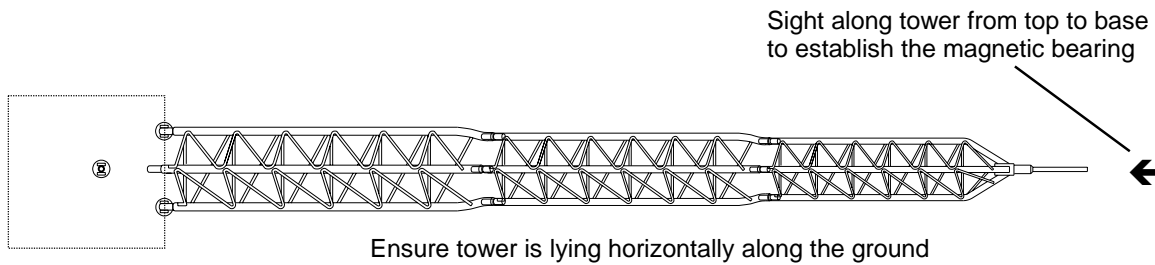

Figure 2-4 Sighting Along the Tower to Check the Magnetic Bearing
3. Sight along the tower, from the mast end towards the base as shown in Figure 2-4, above and, using a high quality compass, establish its magnetic bearing. It is recommended that you set up the wind sensor with respect to *true* north. Using an ordnance survey map (or other documentation) establish the declination angle for true north in your vicinity. Calculate true north by adding this angle to the magnetic bearing. For example, if the magnetic bearing is +37 degrees and the declination angle is +3 degrees, the adjusted bearing for true north is $37+3=40$ degrees. (See Appendix A for a general discussion about true north and declination angles.) Make a note of this adjusted angle as you will need to use it to accurately set your wind direction sensor.